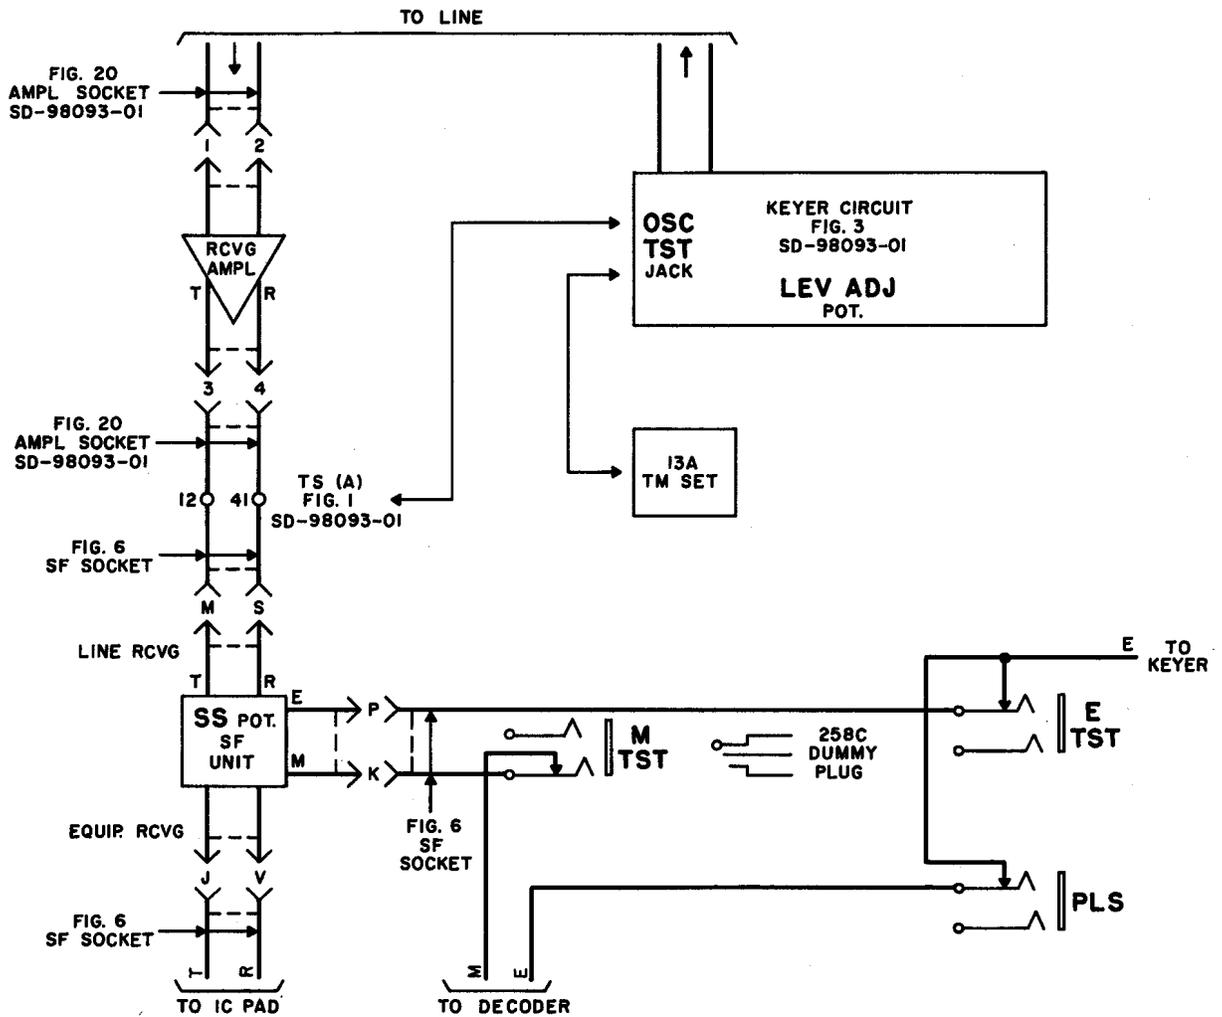

Fig. 3 — Setup for Single-Frequency Sensitivity — Test H
G. Keyer Frequency Test: This test checks the output frequencies of the key circuit SD-98093-01, Fig. 3, and provides an adjustment procedure to follow. This test must be satisfactorily met before proceeding to Test H.